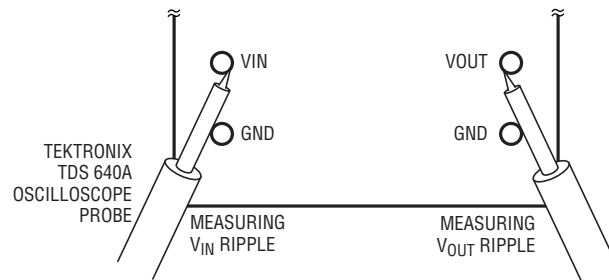

Figure 2. Proper Noise Measurement Technique
4. When measuring the input / output voltage ripple, care must be taken to avoid a long ground return for the oscilloscope probe. After removing the grabber and outer plastic sleeve from the scope probe, measure the input voltage ripple by touching the probe between V_{IN} and GND and measure the output voltage ripple by touching the probe between V_{OUT} and GND as shown in Figure 2.